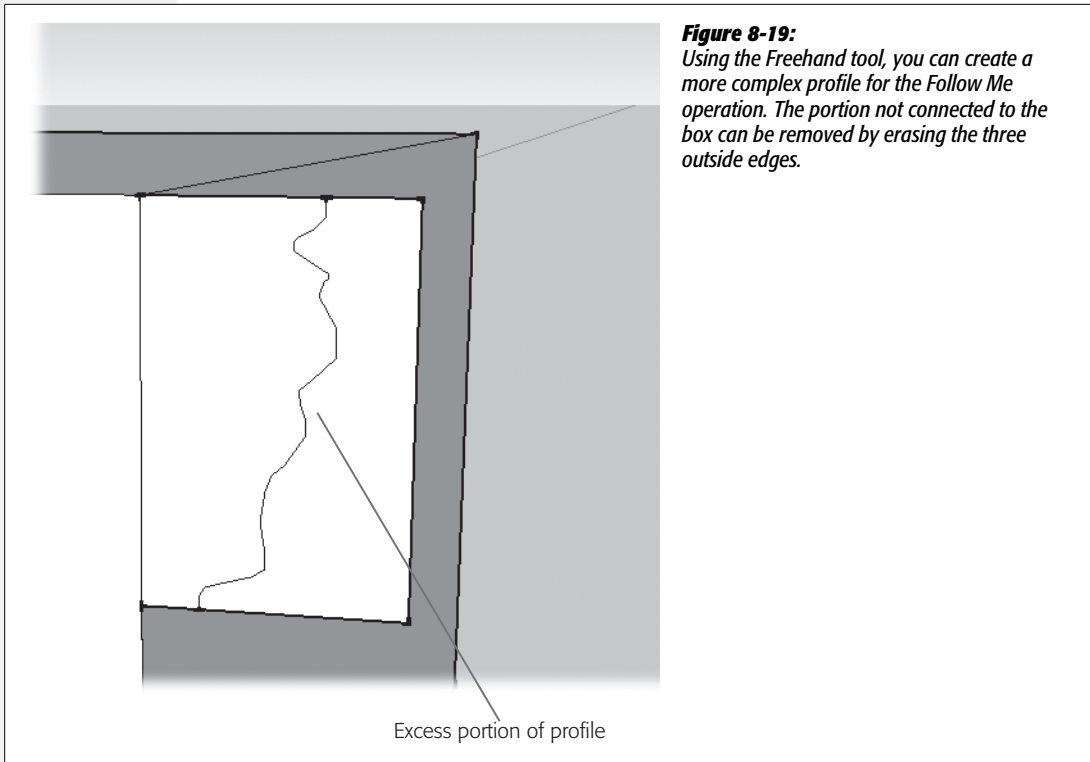

Figure 8-19:
- Use the Eraser to erase the excess outer edges of the profile, as shown in Figure 8-19.